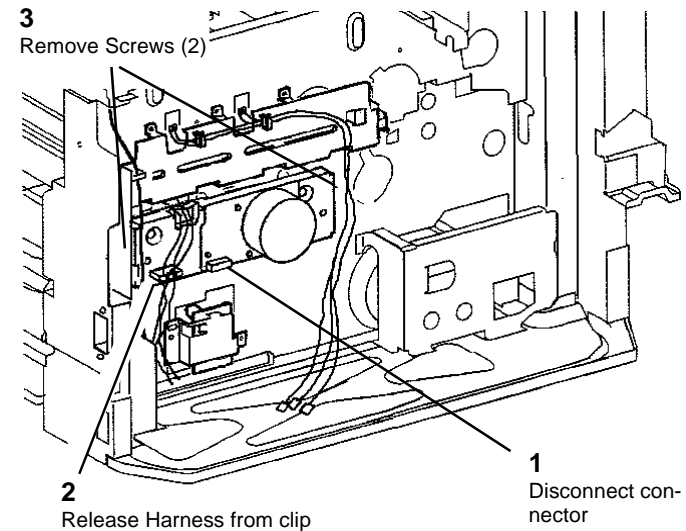

Figure 1 Removing Developer Drive Motor Assembly
4. Remove Developer Drive Motor Assembly (Figure 1).